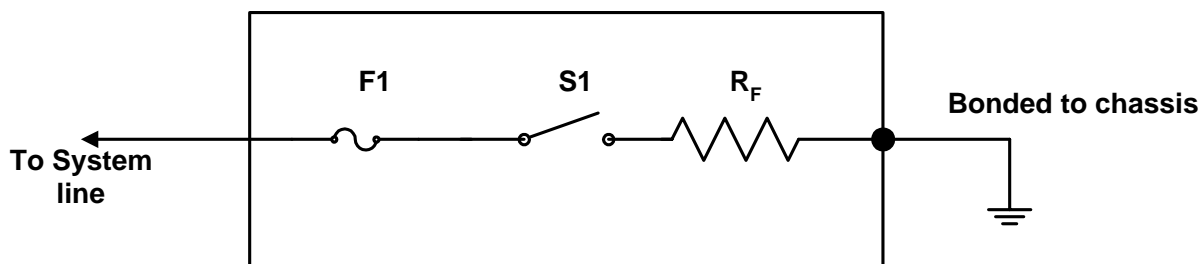

Figure 4 Typical Test Fault Resistor
- 11.1. The simplest way to test the GADD MKIII is to apply a test fault to the system in a controlled manner. For this test a Test fault should be constructed from a power resistor as shown in Figure 4. Note all components should be rated for the voltage and power required. The power rating of the resistor particularly should be observed. $P = I^2R$ watts where I is the continuous current in amperes and R is the resistance of the resistor in Ohms.
- FIG. 4 Typical Test Fault Schematic